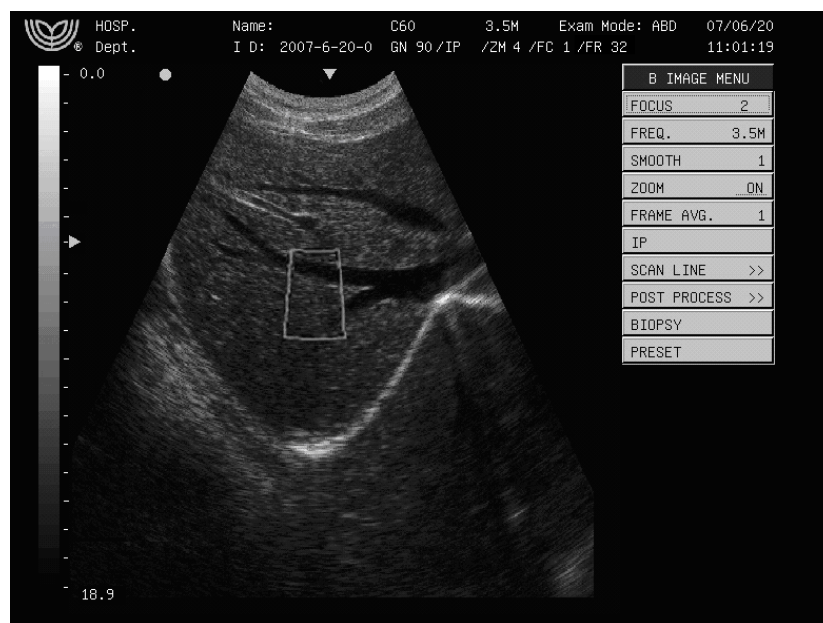

Fig. 6-9 Zoom in the image
2. In real time mode, move the cursor to menu item-“ZOOM” in **【B IMAGE MENU】**, press **【SET】** key to change zoom status from **OFF** to **ON**, then a sample frame will appear in the center of the screen, like Fig. 6-9